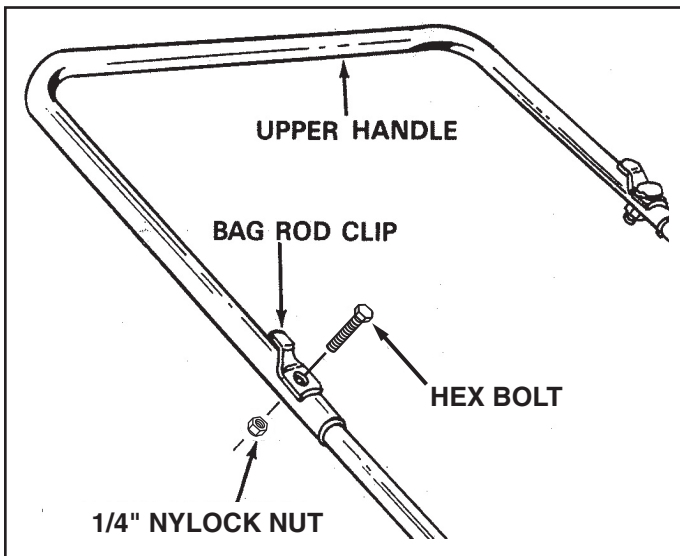

FIGURE 3
4. Assemble the Upper Handle Tube over the Handle Leg Stand Tubes. Align holes in handle and assemble the Bag Rod Clips to the handle as shown and fasten with 1/4" x 1-1/4" hex bolts and nylock nuts. See figure 3.